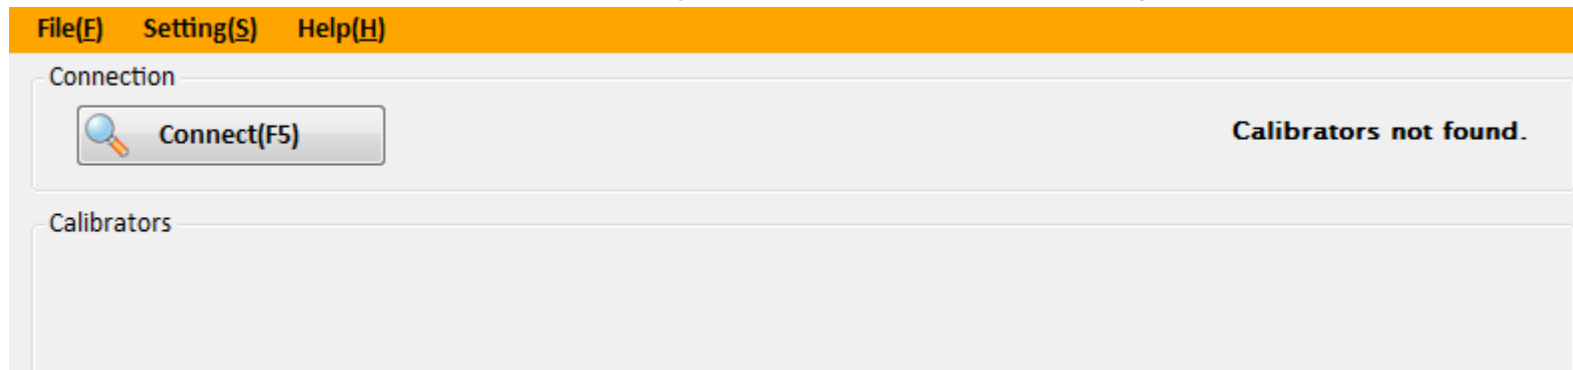

Figure 4.2.1
- If there are no calibrators, you will see the message of “**Calibrators not found**”. See figure 4.2.1 below.